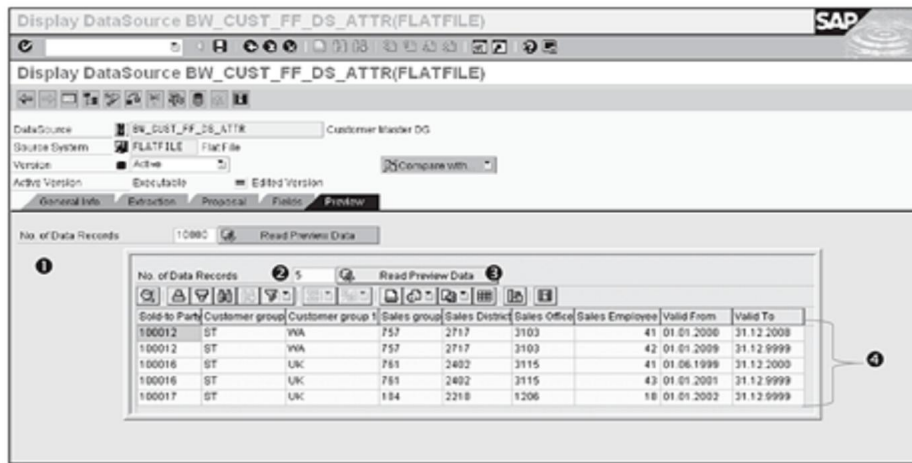

Figure 7.17 DataSource Creation: Preview Tab
format before loading it to the SAP NetWeaver BW system (this can only be done, however, if the DataSource is active). As shown in ❶ of Figure 7.17, no data is shown initially. Select the number of records you want to view (5 records, for our example), and click Read Preview Data (❷). The result of this action is shown in ❸ of Figure 7.17. SAP NetWeaver BW reads the actual data and displays the requested number of records, allowing you to make sure your DataSource is correct.